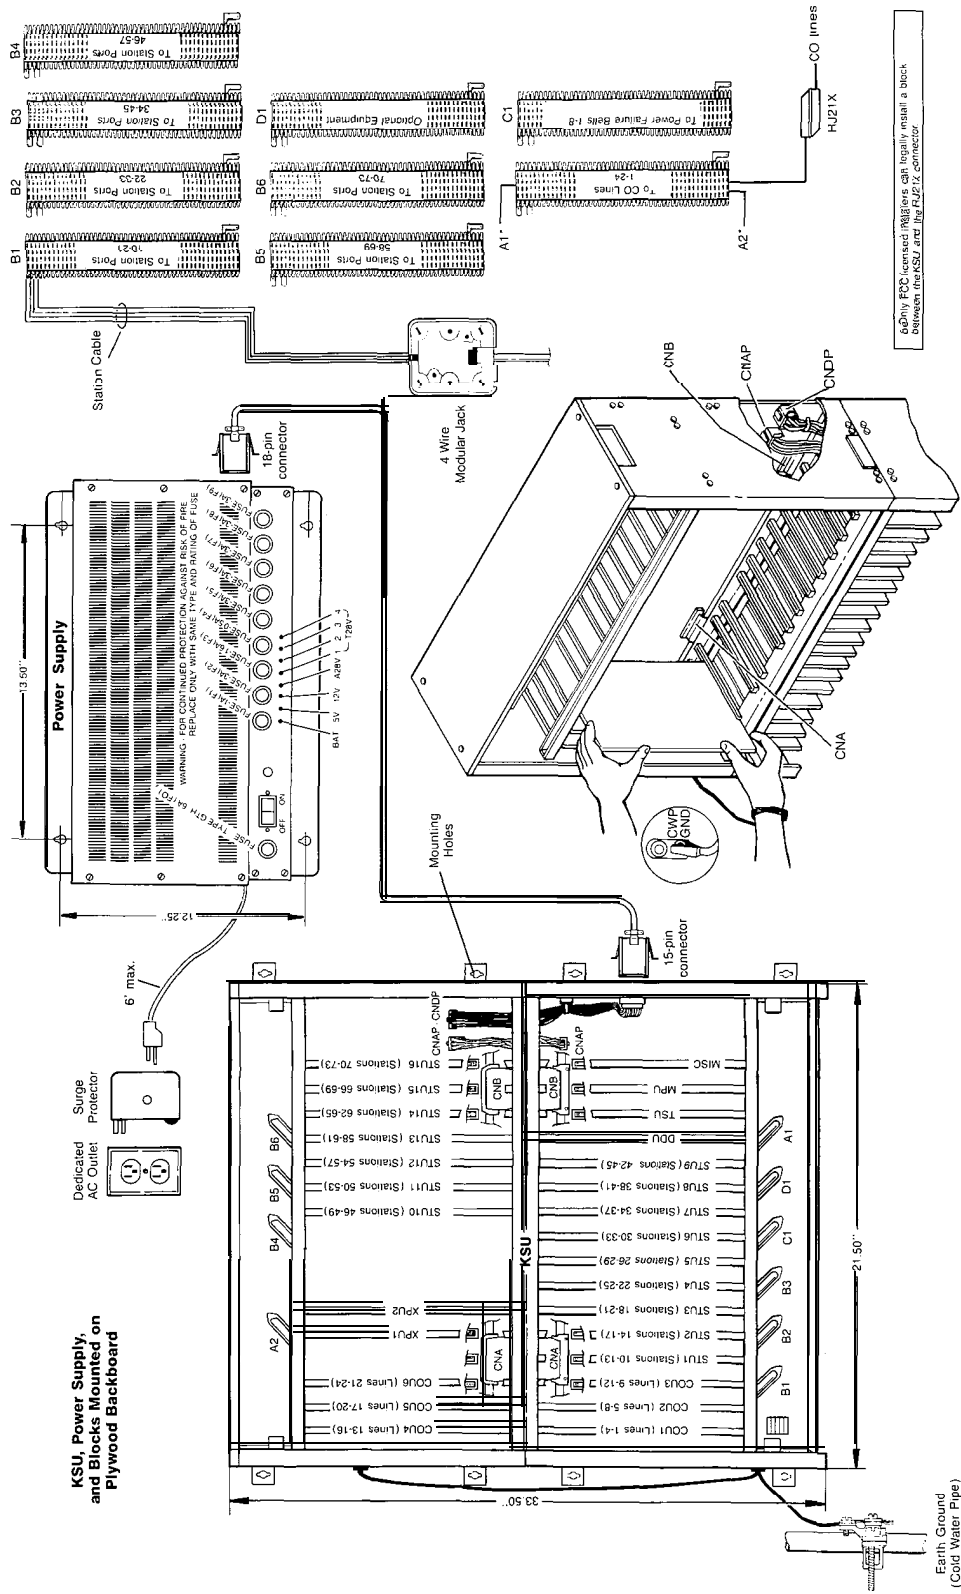

FIGURE 2-4 BUSINESSCOM 36 KSU-B (P/N 15201) W/BUSINESSCOM 64 EXPANSION CABINET (P/N 15301)
5. Refer to Figure 2-4 BUSINESSCOM 64 KSU-B (P/N 153011, and hang the Expansion Cabinet on the four fasteners.